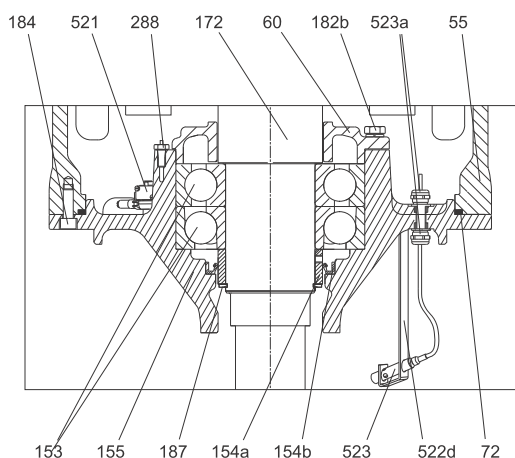

Fig. 59 Lower bearing, KPL 500-800, KWM 600-700
1. Heat the upper bearing (pos. 154) to 120 °C and mount it on the shaft.
4. Heat both lower bearings (pos. 153) to 120 °C and mount them on the shaft.
5. Lubricate the shaft sleeve (pos. 154a) with oil and mount it on the shaft and tighten the set screws according to section 7. *Tightening torques and lubricants*.
6. Mount the circlip (pos. 187) on the shaft.
7. Press the seal ring (pos. 154b) into the lower bearing bracket (pos. 155). See fig. 59.
8. Heat up the lower bearing bracket to 120 °C and press the shaft with bearings into the bearing bracket (pos. 155).
9. Mount the screws (pos. 182b) and tighten them according to section 7. *Tightening torques and lubricants*.